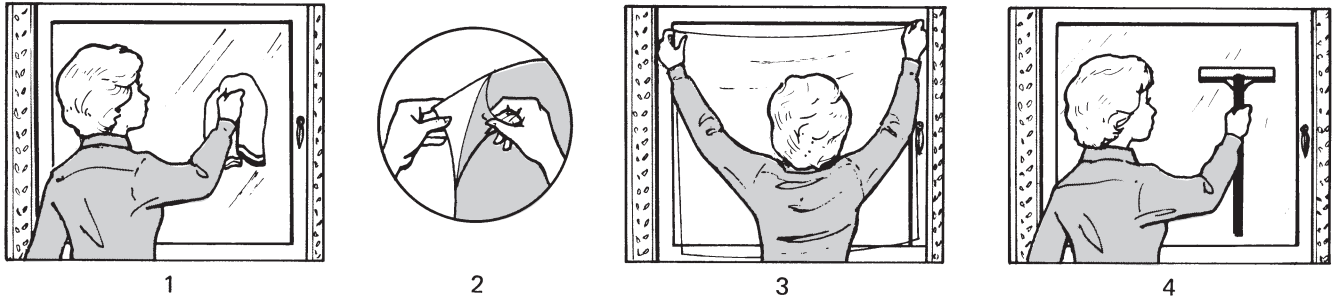

Fig. 9-170 Step-by-step application of energy-saving film. (Kelly-Stewart.)
Step 3 calls for clear water to be sprayed onto the glass area. Remove the separator film (Fig. 9-170). Test for the tacky side of film by folding it over and